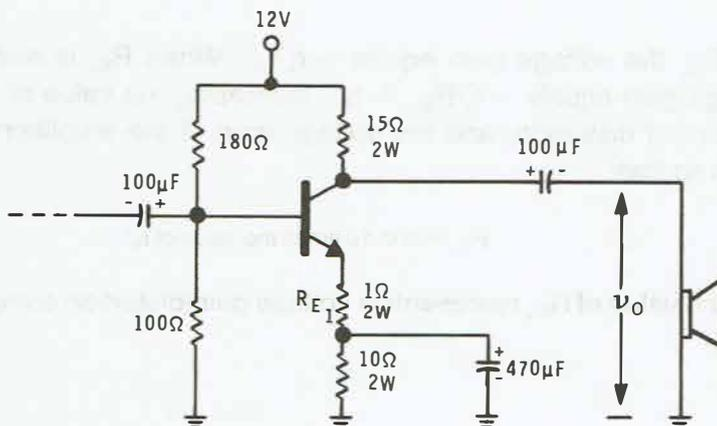

Figure E8-4
To reduce the harmonic distortion in the output waveform, the signal swing could be limited to less than $\pm V_{CEQ}$. This approach significantly reduces the already low efficiency of the amplifier. A better approach is to **bypass only a portion of the emitter resistor**, as shown by the partial schematic in Figure E8-4. The addition of R_{E1} tends to mask out the nonlinear variations in r_e' for large-signal swings. Naturally, the addition of R_{E1} also reduces the voltage gain of the amplifier. However, since the amount of power delivered to R_L is our primary concern, this is not a significant disadvantage.
22. Turn the power off. Connect a 1Ω , 2W resistor in series with the emitter as shown in Figure E8-4.